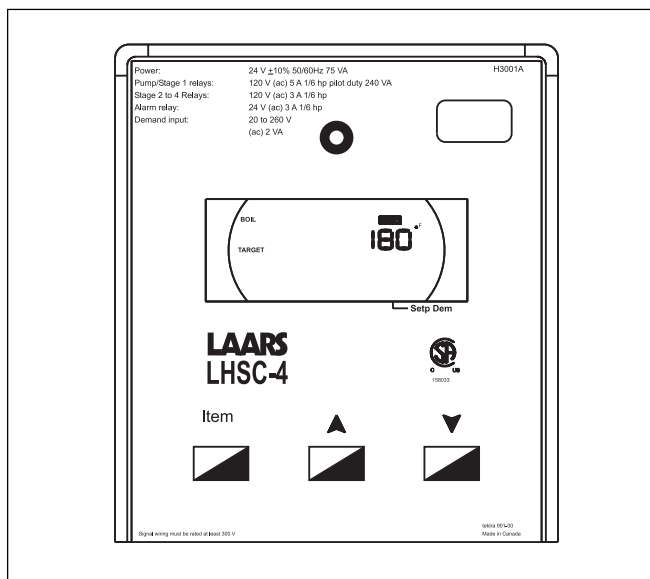

Figure 15. Temperature Control.
There are three black programming buttons on the Temperature Control (see Figure 15). Press and hold all three programming buttons until the word “ADJUST” appears in the upper right corner of the LCD display (it replaces the word “VIEW”).
Step 2: Press the three programming buttons to enter “ADJUST” mode (Figure 15). Press “Item” to select the programming item, and the arrow keys to adjust the setting. “TARGET TANK” is desired tank temperature. Recommended settings with a desired tank temperature of 125°F:
Step 3: Press the three programming buttons to enter “ADJUST” mode (Figure 15). Press “Item” to select the programming item, and the arrow keys to adjust the setting. See section 6.3 Programming the Temperature Control if more programming instructions are needed.